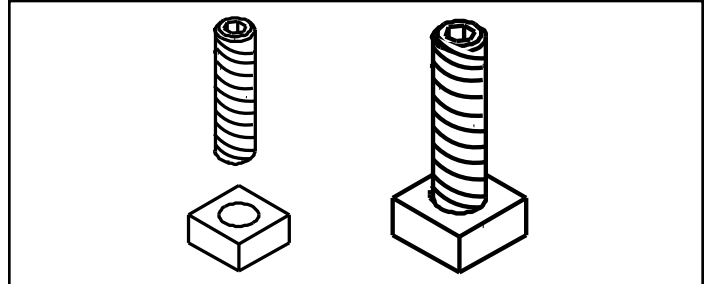

Figure 22.2
8. Thread Allen bolts through nuts until flush (Figure 22.2)